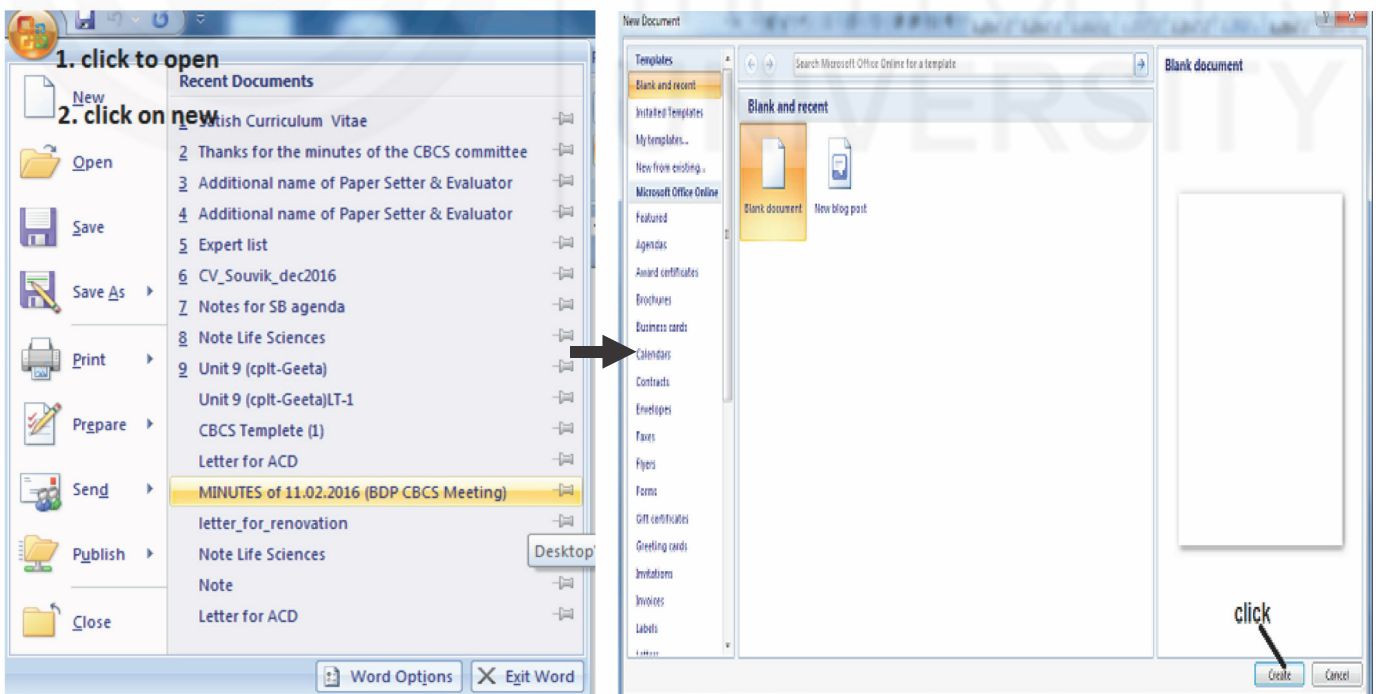

Fig. 14.3: Opening a new document.
- ➔ To start a new document click on **New** in the box, you will get the option of a blank document, make sure it is selected and then click on **Create** to open the new document (see Fig. 14.3).
- You can save your document by clicking on the save icon in the Quick Access Tool Bar or by clicking on **Save** option in the box that opens when the Office Button is clicked (see Fig.14.3 again). When you save the document for the first time it will be saved under its heading in the general folder called **Documents**. It is very important that you save your file frequently during typing by clicking on the icon of the floppy disc on the Quick Access Tool Bar or you might lose all your work if by any chance the computer shuts down in the middle of your work.